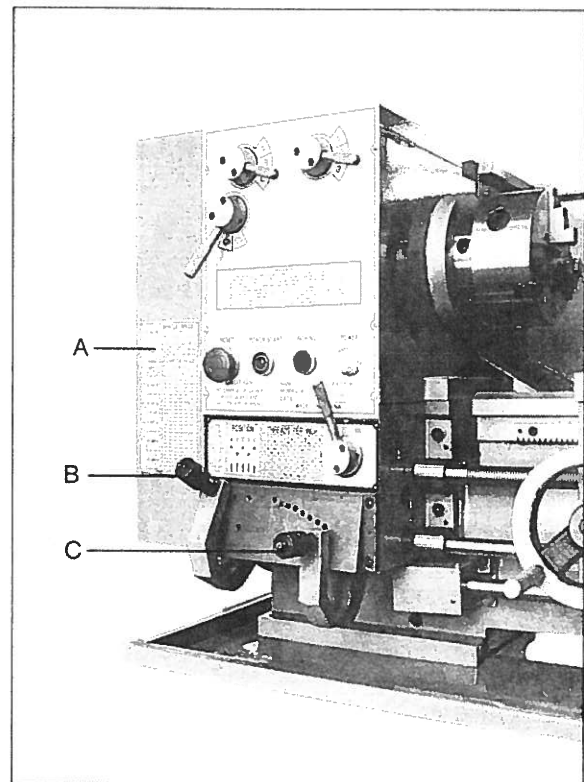

Fig. 14
1. Reference the feed and thread tables (A, Fig. 14) found on the front of Change Gear Cover.
2. Move levers (B & C, Fig. 14) to the appropriate detent position.